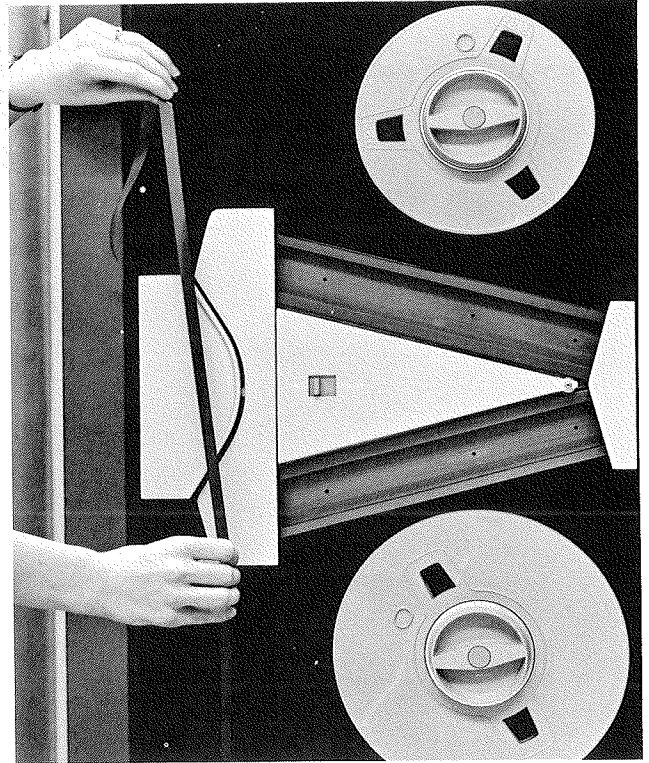

Figure 3-5. Threading Tape (step a)
a. Hold end of tape between thumb and forefinger of right hand. Hold tape between thumb and forefinger of left hand, with about 15 inches of tape between the two hands. (See figure 3-5.)